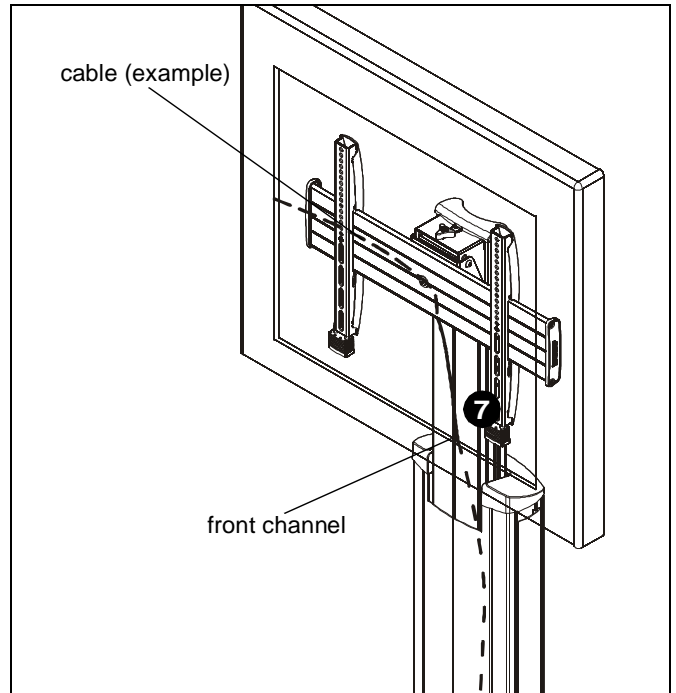

Figure 14
7. Route cables from display through front channel of column assembly. (See Figure 14)